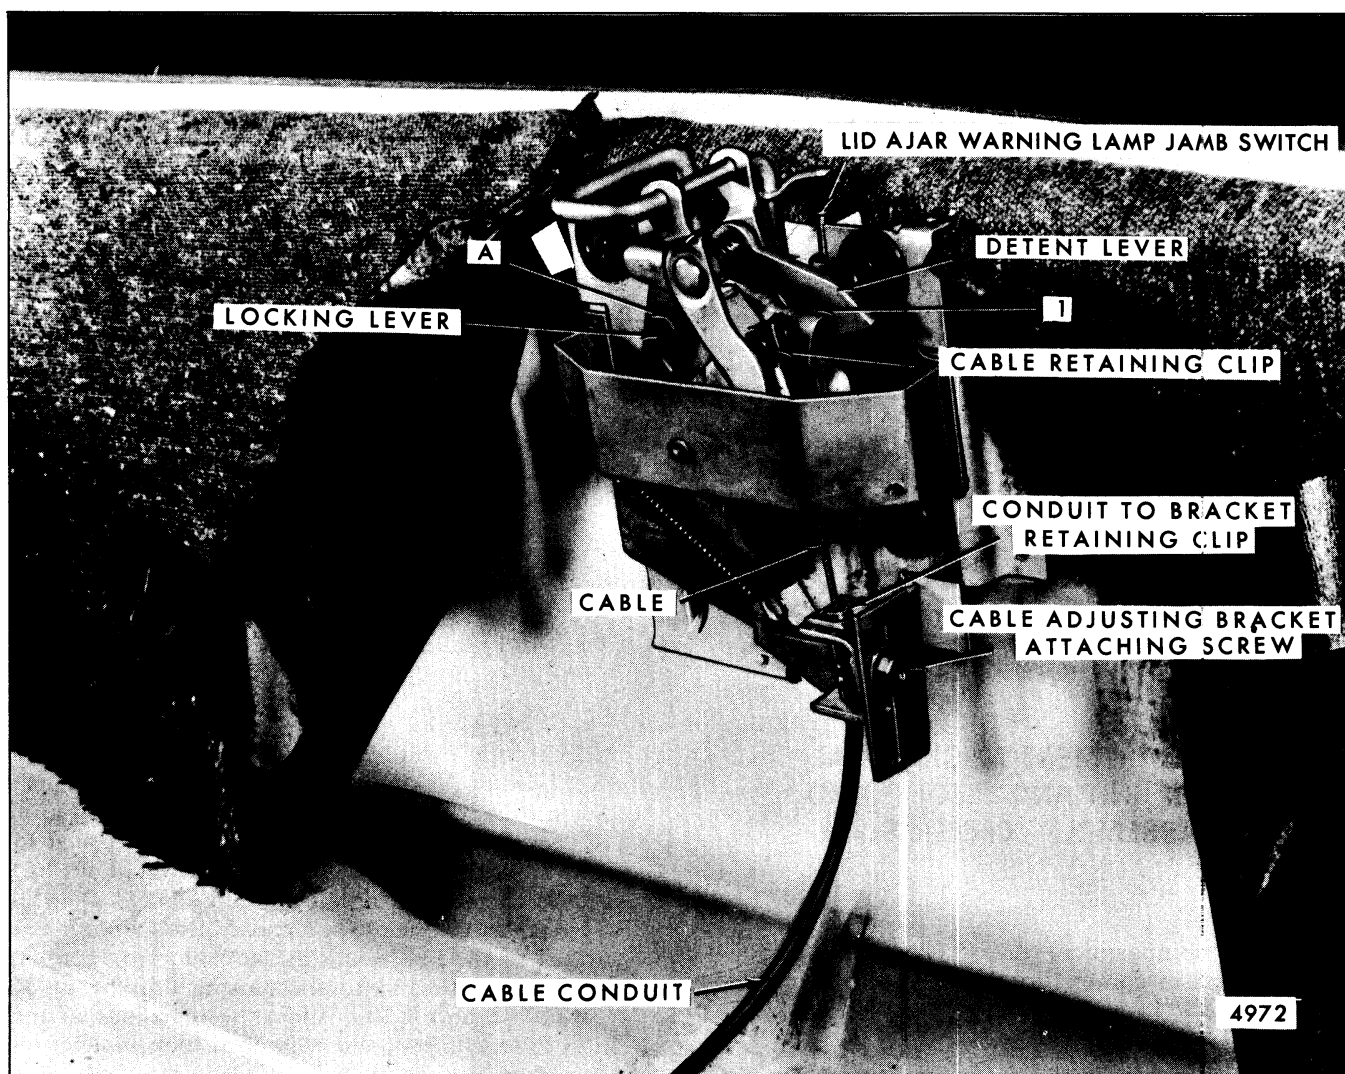

Fig. 7-16-Rear Compartment Mechanical Pull-Down Unit and Electric Lid Release - Cadillac Styles
To actuate the mechanical pull-down unit, the rear compartment lid lock must properly engage the striker arm and the detent lever on the mechanical pull-down unit (Fig. 7-16) fully depressed. Engagement can be checked by lowering the lid and visually checking lock and striker alignment. If adjustment is necessary, obtain "lateral" adjustment at lock attaching screw locations and "up or down" adjustments at pull-down unit attaching screw locations.
To increase cable tension or if finer adjustment is required, loosen cable adjusting bracket attaching screw (Fig. 7-16) and adjust bracket downward (to increase cable travel), then, tighten attaching screw.
**CAUTION:** A lack of lubrication between the toggle and the detent lever ("1", Fig. 7-16) can greatly increase the effort required to trip (unlock) the pull-down unit. Therefore, make certain point of contact between these two levers is lubricated with "Lubriplate" or equivalent.
striker slightly to relieve tension from cable and disengage clip securing cable to pull-down control arm (Fig. 7-16).
3. Scribe position of pull-down unit on rear end panel to facilitate installation. Remove pull-down unit attaching bolts and disconnect electric feed wire (Fig. 7-16). Remove unit from body.
1. Disengage cable and cable conduit retaining clips at both ends of cable (Figs. 7-16, 7-17 and 7-19). Then, remove cable assemblies.